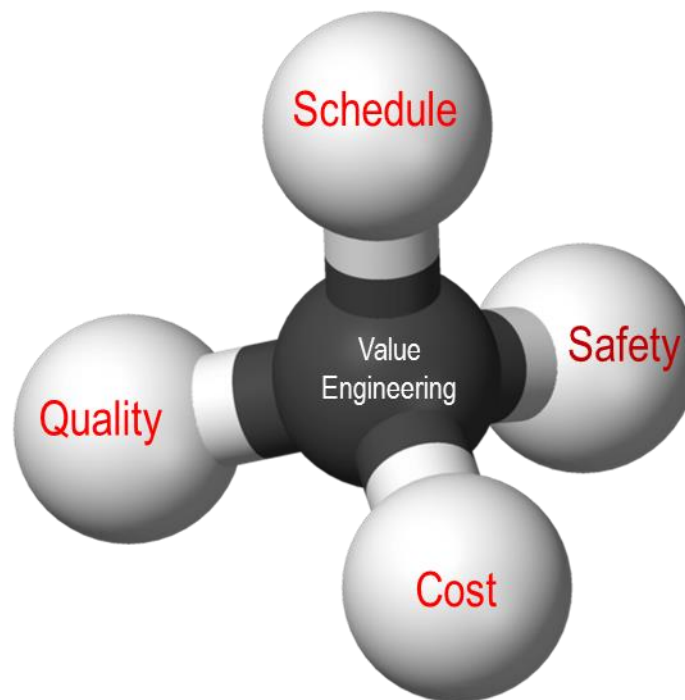

FIGURE 1.2 VALUE ENGINEERING CONSIDERATIONS. IMAGE CREATED BY A.FULTON
During my interview with Doug Stelljes, we walked about some of the Value Engineering (VE) ideas that were incorporated on the project to save time and money, but preserve the quality that the owner expects. In each value engineering aspect that was applied, team looked at all four focus items, shown in Figure 1.2 to determine the best option for the best value in their decision making.